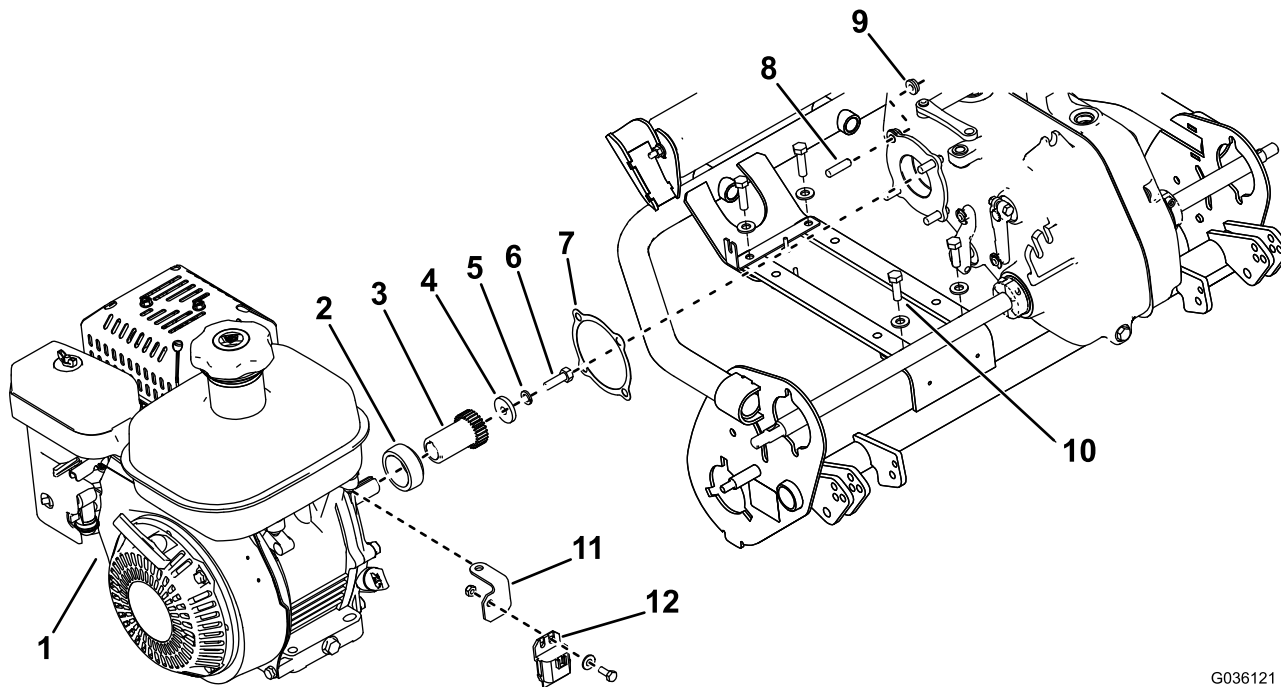

Figure 8
1. Install the existing engine output shaft components to the engine (Figure 8).
2. Install the set screws to the engine (Figure 8).
3. Attach the wire-harness bracket to the fuel tank using the rear flange nut securing the tank to the engine (Figure 8).
4. Install the interlock module to the wire harness bracket with the fasteners removed previously (Figure 8).
5. Mount the engine onto the frame using the existing bolts and nuts (Figure 8).
9. Attach the engine to the gearbox using the previously removed nuts (Figure 8).